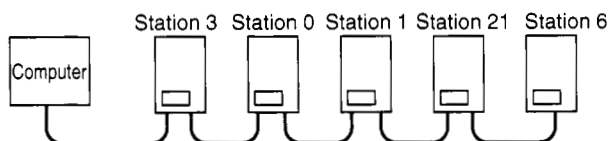

Figure 4-11 Example of station number setting
- 5) Station numbers may be allocated independently of the order of cable connection. Vacant stations may exist. See Figure 4-11 for example.